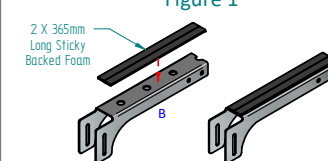

Figure 2
6. Loosely fix the assembly of items **A** and **B** to items **C1** and **C2** using items **E** with items **G** and items **D** fitted in-between **C1** and **C2** as shown in **figure 2**.